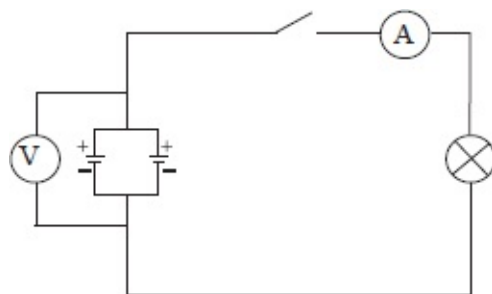

Fig. 10.13: Emf and current with cells in parallel
- Connect the circuit as shown in figure 10.13.